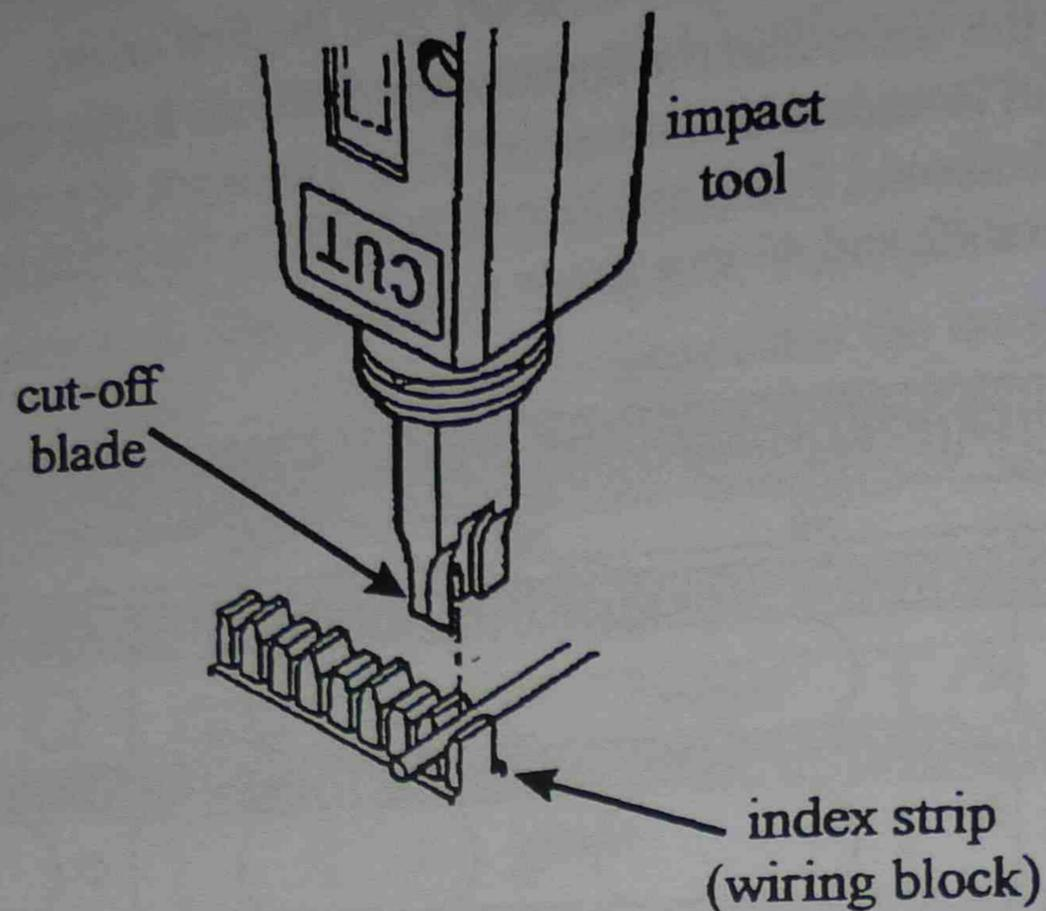

Figure 44 Terminating cabling in wiring block
13. Seat the conductor using an AT&T 788J1 impact tool or equivalent. Use Figure 44 as a guide.